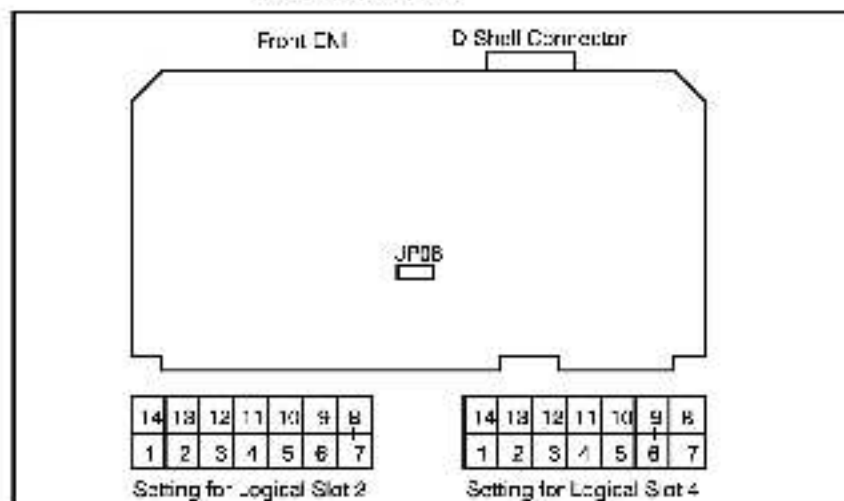

Figure 3.1- Setting Jumper for Logical Slot Location
| Figure 3.1 - Setting Jumper for Logical Slot Location | 3-2 |
- Step 3. Set the jumper (visible through the cutout in the enclosure) for the appropriate logical slot. Refer to figure 3.1 and section 3.2.